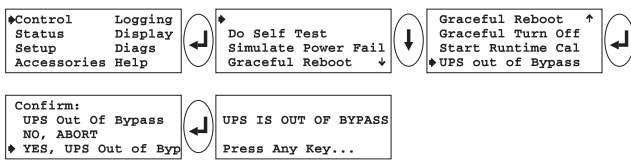

Fig 5-24 Return to On-Line Sequence
- ❑ 11. Return the Symmetra™ to the on-line mode of operation by following the screen sequence in figure 5-24.